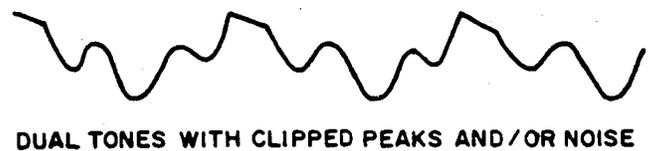

Fig. 13—Improper Dual-Tone Waveforms
- (17) Waveforms similar to those shown in Fig. 13 are unacceptable for the reasons indicated.
- (18) Position test fixture switch S1 to RVSE to reverse the polarity of the test fixture.
- (19) Repeat steps (11) to (17) above. The same results should be obtained.